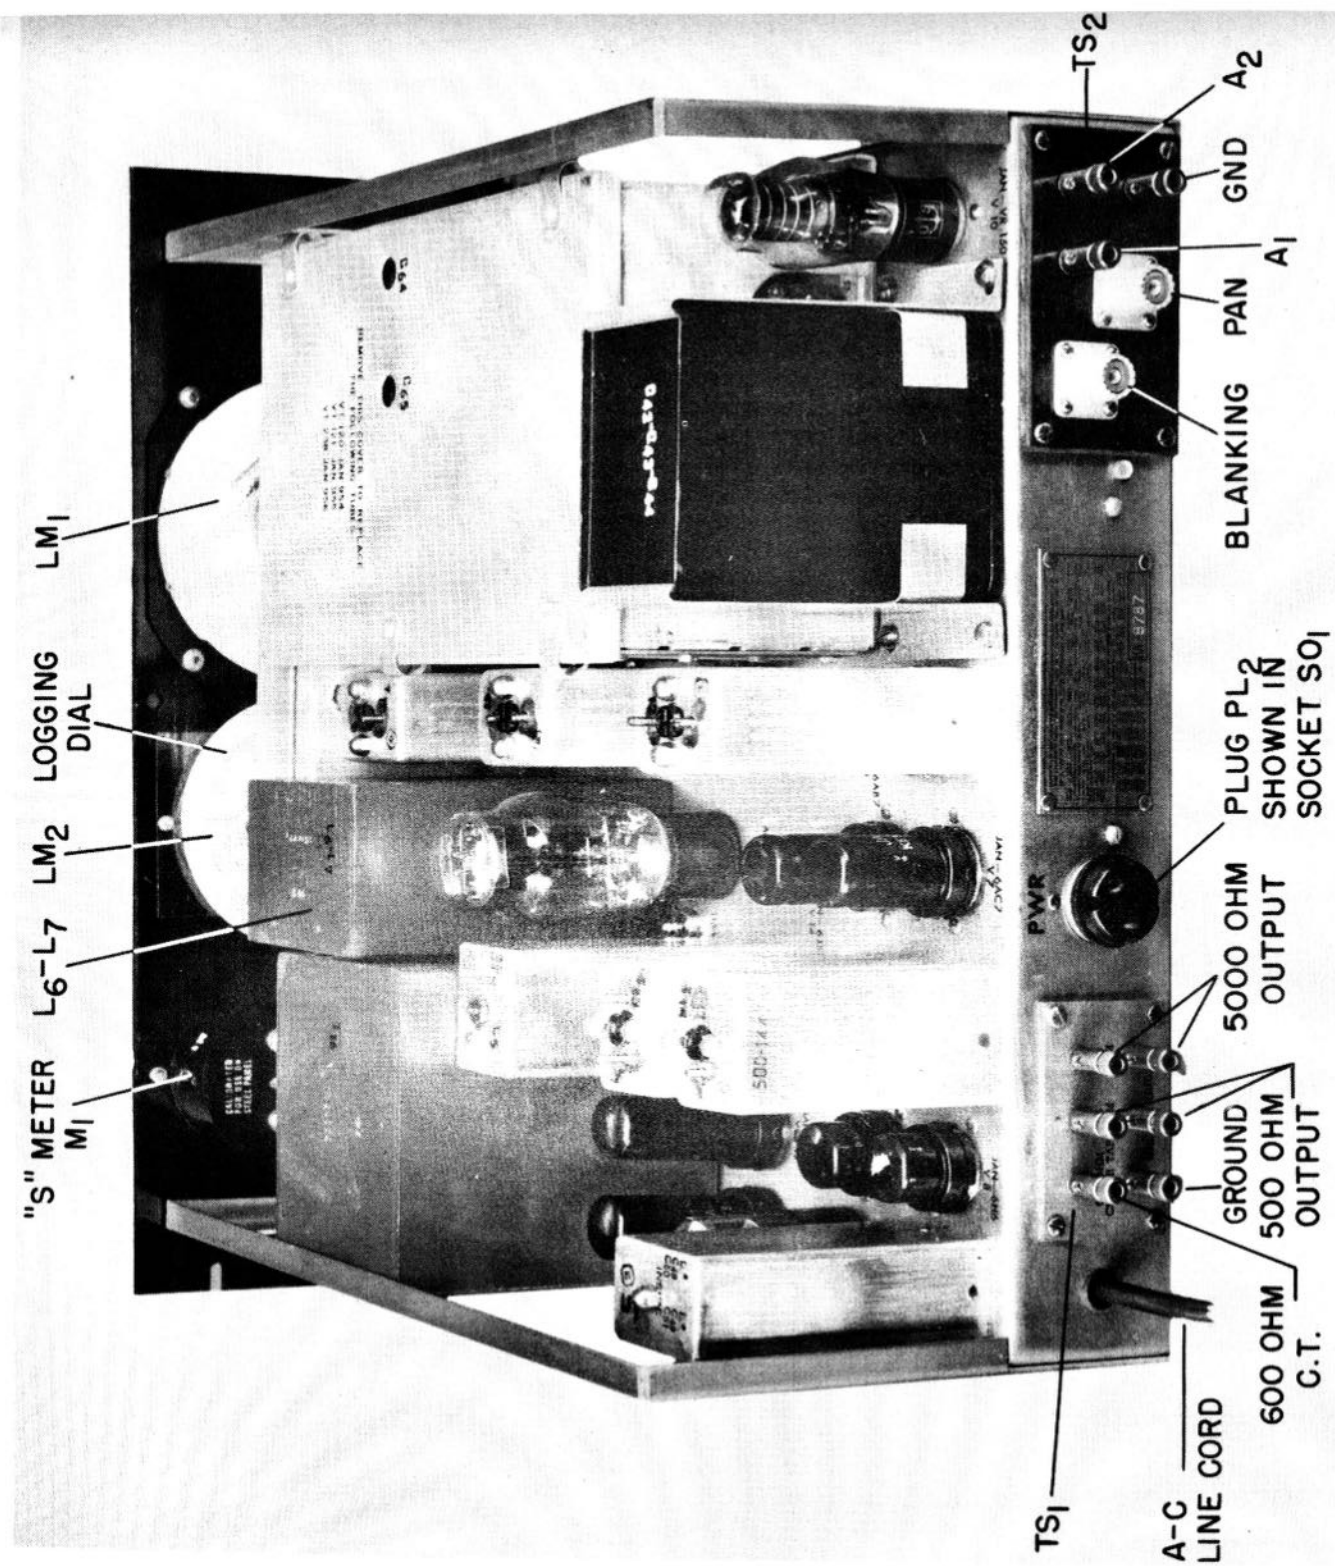

Figure 6. Radio Receiver CHL-46130-D, Top Rear View
a. Signals picked up by the antenna enter the receiver through the antenna binding posts on terminal strip TS2 (Marked A1 and A2.) on the rear apron of the chassis. (Refer to figure 6) The signal is fed to the radio frequency amplifier tube (V1) through the antenna transformer (T3). The secondary of this transformer (T3) is tuned by capacitor C1A and trimmed by capacitor C2.
axial socket. It is located on terminal strip TS2, on the rear apron of the chassis. Refer to figure 6.